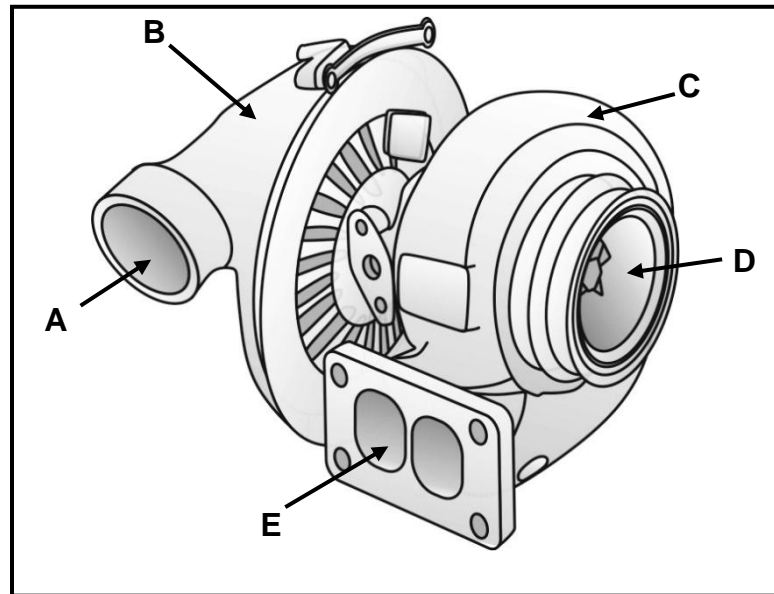

FIGURE 6.7
- 6.7 FIGURE 6.7 below shows a turbocharger that is extensively used in modern vehicles. Answer the questions that follow.